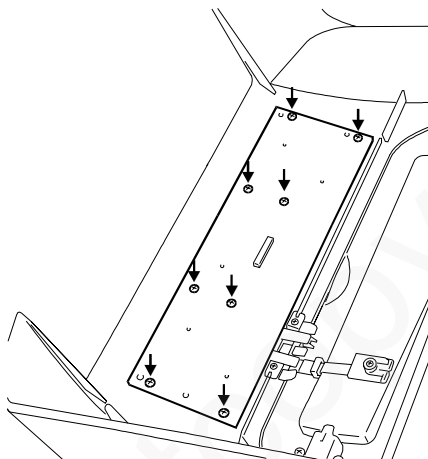

Fig. 7-53
- 2) Unscrew the eight screws indicated by the arrows and flip over the board (Fig. 7-53):